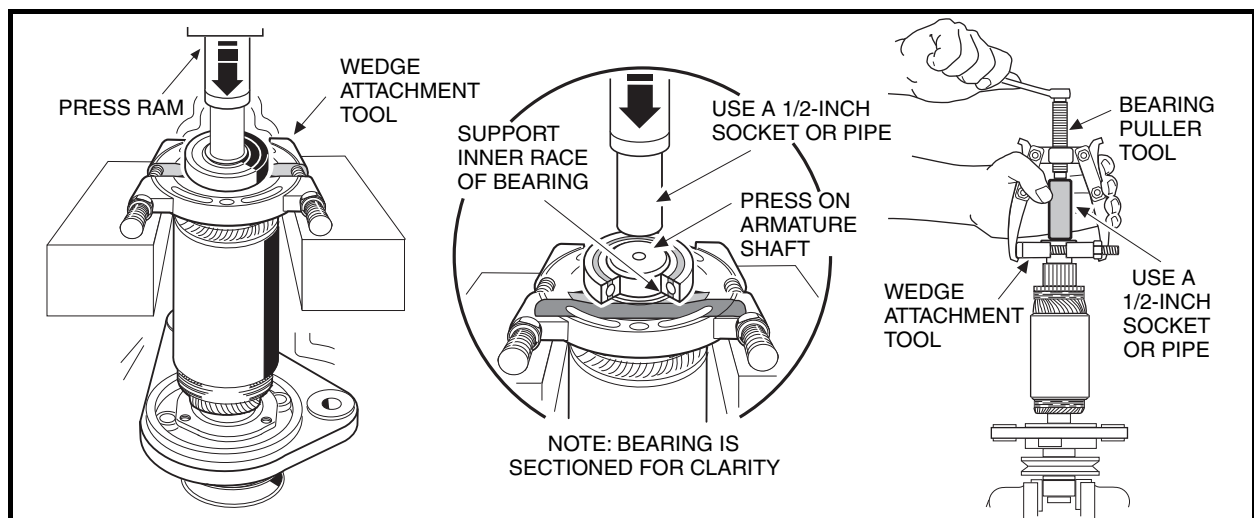

Figure 12-9 Bearing Removal
1. Place the wedge attachment tool (CC P/N 1012812) between the bearing and the armature. Make sure the wedge attachment tool is supporting the inner race of the bearing. If a press is not available, secure a bearing puller (CC P/N 1012811) to the wedge attachment tool and pull the bearing off of the end of the armature shaft. Support the armature so that it will not drop when the bearing is removed (Figure 12-9, Page 12-5).